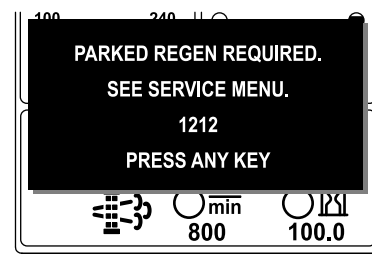

Figure 47
- Parked regeneration required ADVISORY #1212 (Figure 47)